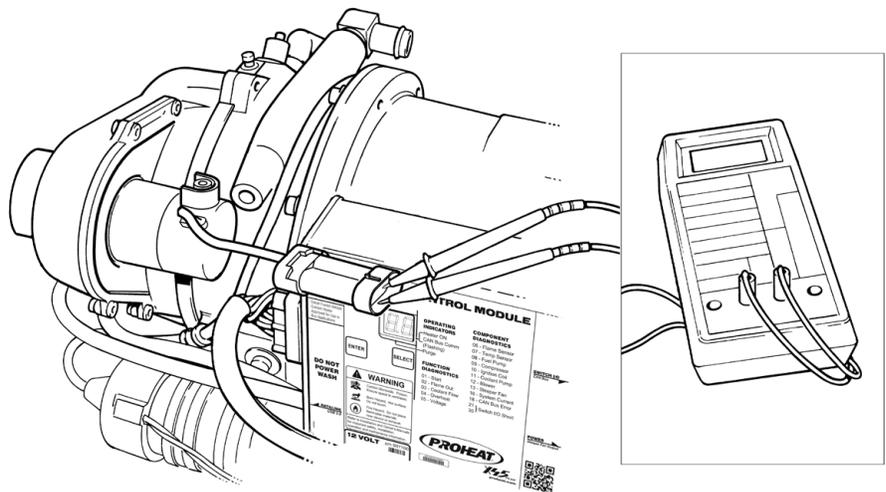

Figure 4-38. Blower Test
4. Test blower. If it tests OK replace PCM. (See figure 4-38 and Test Procedure)
2. Check motor for internal short. (See figure 4-38 and Test Procedure)